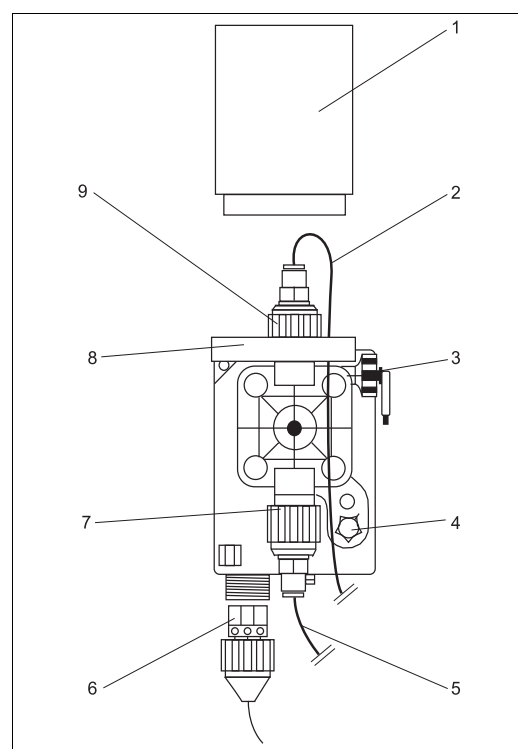

Fig. 12: Membrane pump
9. Unscrew the splash protection cap (→ Fig. 12, item 1) from the membrane pump.
10. Guide the filtrate hose (item 2) from below through the left-hand bore in the splash protection base (item 8).
11. Cut the filtrate hose such that you can insert it comfortably into the plug-in connector of the pressure connection (item 7).
12. Pull the filter hose back far enough so that it runs in a relatively narrow bend at the top (→ Fig. 12).